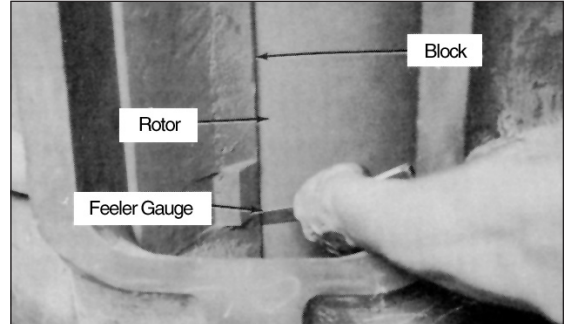

Figure 9
10. Rotor to block clearances should now be checked with feeler gauges at both inlet and outlet ports, Figure 9. Likewise, top and bottom rotor clearances can be determined. Rotor slot clearances on all six slots can be determined. The slots should be numbered with chalk or crayon so that they can be identified properly when the inner unit cover is removed. All clearances recorded at this point will be those clearances that are in the meter before disassembly and should be noted as "as found" clearances. A comparison of these "as found" clearances with the "as assembled" clearances from the last inspection will indicate the degree of wear for the number of barrels throughput (at these points) from the last inspection.